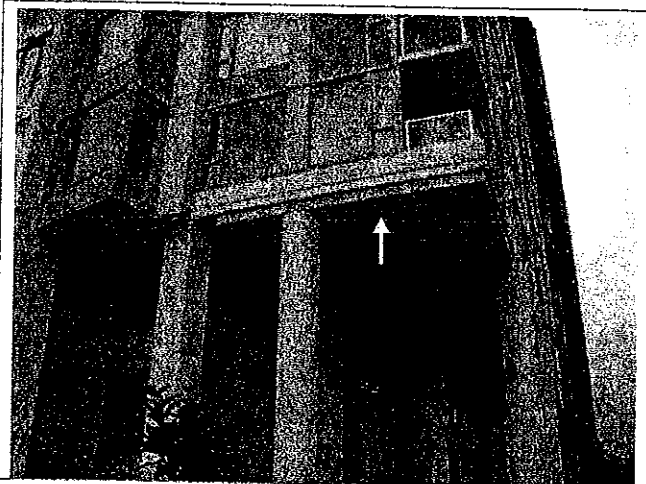
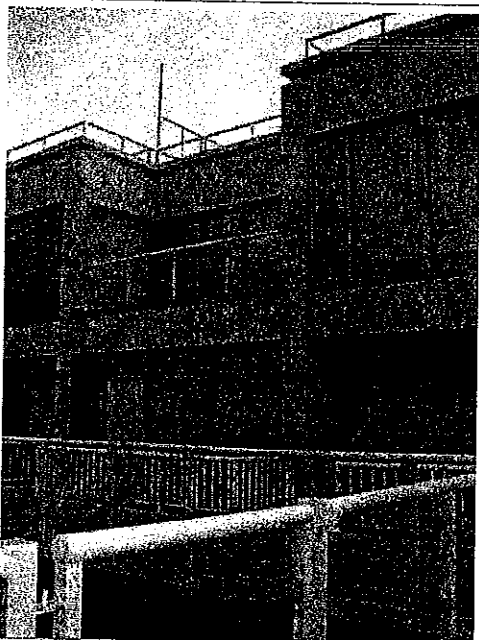
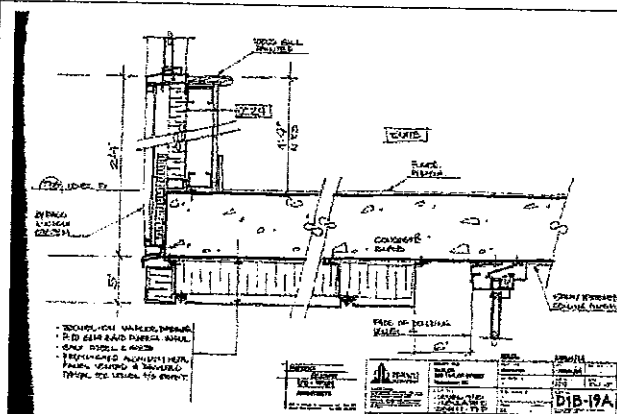

Figure 2.3.1. - No soffit insulation at Suite 510 enclosed balcony (red arrow). Note the soffit insulation at the adjacent area (yellow arrow).
Figure 2.3.2. - No soffit insulation at townhouses.
Figure 2.3.3. Soffit insulation Detail D1B-19A.
1. Reported cold floors at enclosed balconies of Suite 510 (Fig. 2.3.1) and townhouses (Fig. 2.3.2). Enclosed balconies are not considered occupied space; therefore there are no requirements for insulation (although the walls between the enclosed balcony and the suite must be insulated). However, some enclosed balconies (Suite 503) have soffit insulation and were detailed that way (Fig. 2.3.3 - Detail D1B-19A). Further to this, there are electric baseboard heaters in the enclosed balconies of Suite 510 and the townhouses we had access to (Townhouses 18 and 20), indicating that they may be considered occupied space, but they have no soffit insulation. See also 2.1.1 Architectural Concrete, item 4. **Significance:** Uncomfortably cold floors in the winter, virtually rendering the space unusable. Condensation at windows.